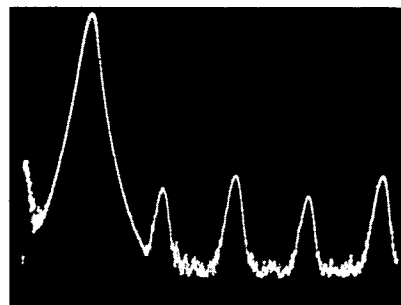

Figure 5-6. Sine Distortion Adjustment: 999 Hz
11.6 Adjust 3rd harmonic with A10R227 and 2nd harmonic with A10R206 for minimum (Figure 5-6). Verify that these levels are 42 dB/ 47 dB below fundamental or lower.